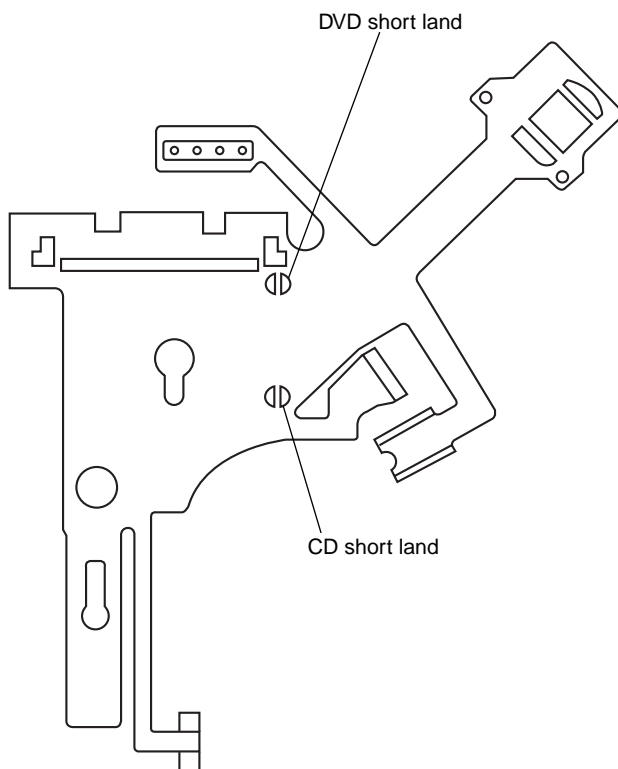

**Fig. 5**
- 3) Raising the MD block ass'y ③ 90° with the side down, confirm that the optical pick-up ④ falls by self weight. (See Fig. 5)
- 4) Further, with the front side of MD block ass'y ③ up, confirm that the optical pick-up falls by self weight.